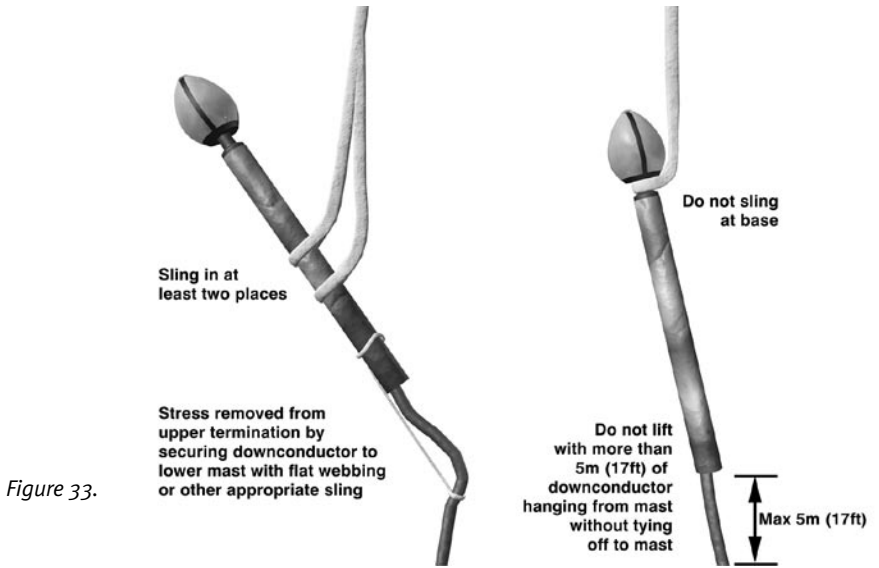

Figure 33.
- When lifting the mast, ensure that the slings or ropes cannot damage the Guardian CAT terminal, see Figure 33.